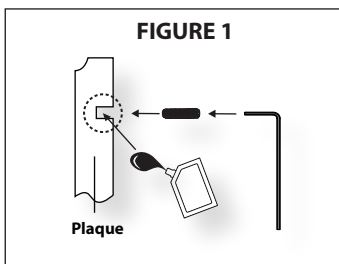

FIGURE 1
- 2) Apply a small amount of silicon sealer (*Included with mailbox post package*) in and around the holes in the back side of the plaques. Insert the threaded studs into the back side of the plaque. Tighten with Allen wrench. Do not over tighten. **(SEE FIGURE 1)**